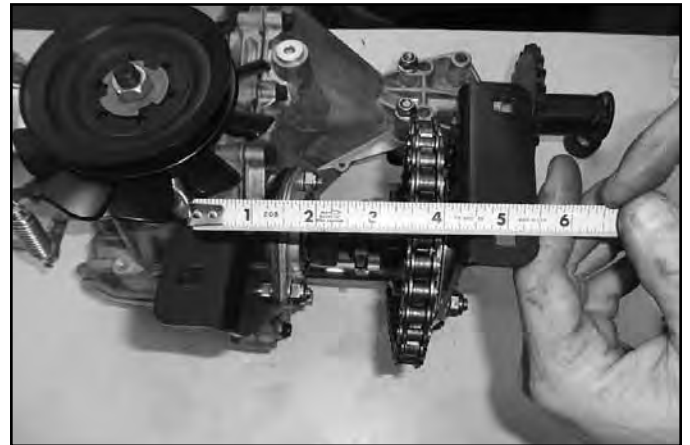

Fig. 121
3. The bearing plate to bracket support assembly dimension should be 5 inches from center-to-center on the mounting holes (Fig. 121).